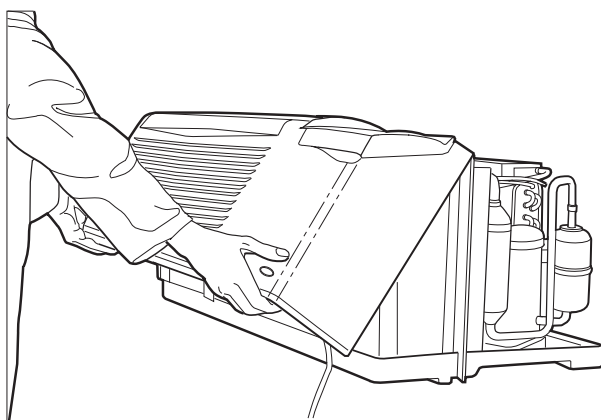

Fig. 7 — Removing Front Panel
Step 12 — Remove front panel from unit by grasping the panel firmly near the bottom of both sides, then pulling the panel forward and upward to release magnetic latches and partition hooks. See Fig. 7.